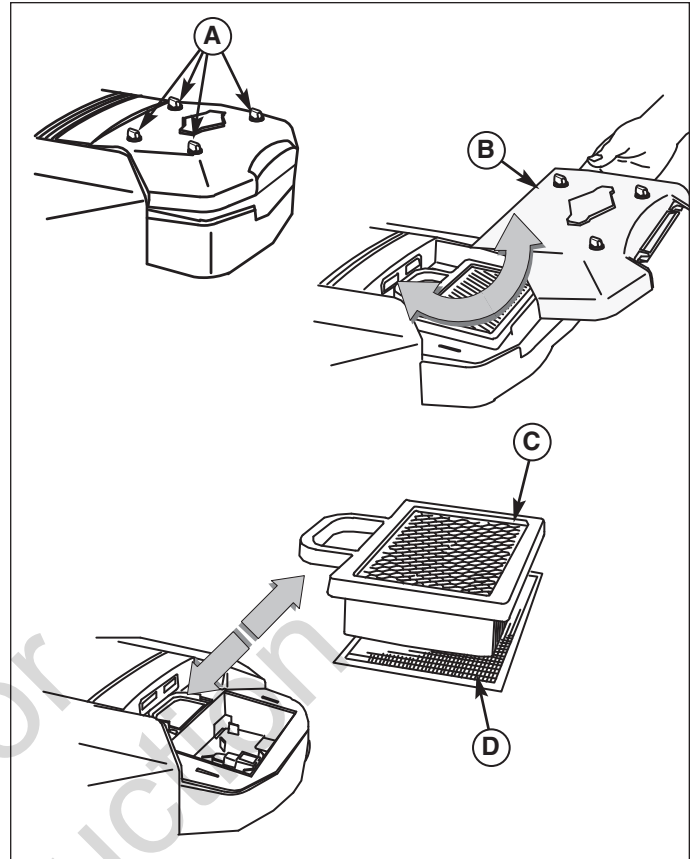

Figure 26. Air Filter Assembly - Briggs & Stratton Twin Cylinder Models
1. Unscrew the four knobs (A, Figure 26) by turning counterclockwise.
2. Remove the cover (B). Remove the filter (C) and pre-cleaner (D).
3. Install the pre-cleaner (D) with the mesh side up. Install the filter (C) as shown.
4. Install the cover (B) making sure the tabs are inserted into their slots. Secure by turning screws clockwise until snug.